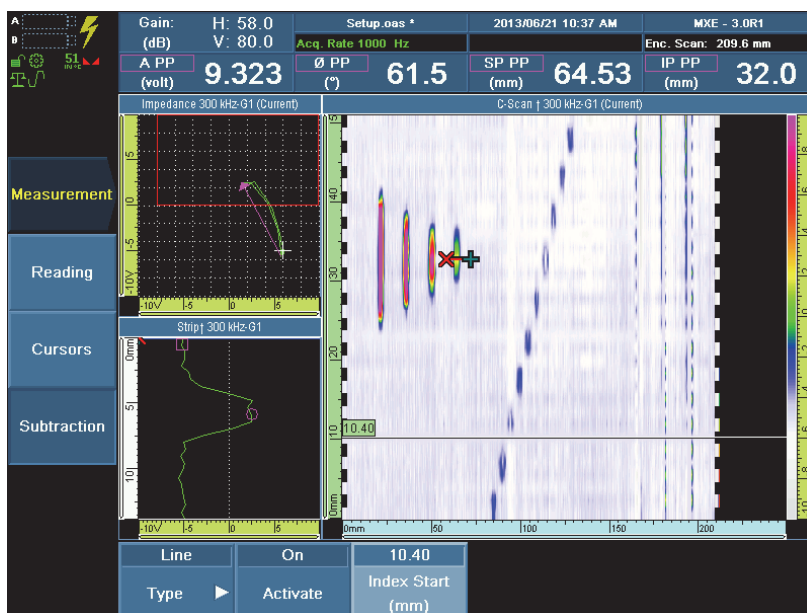

Figure 12-2 Horizontal subtraction cursor
3. Select **Measurement > Subtraction > Activate = On**, and then press the Accept key to enable the cursor. Selecting **Activate = Off** will disable the cursor (see Figure 12-2 on page 229).